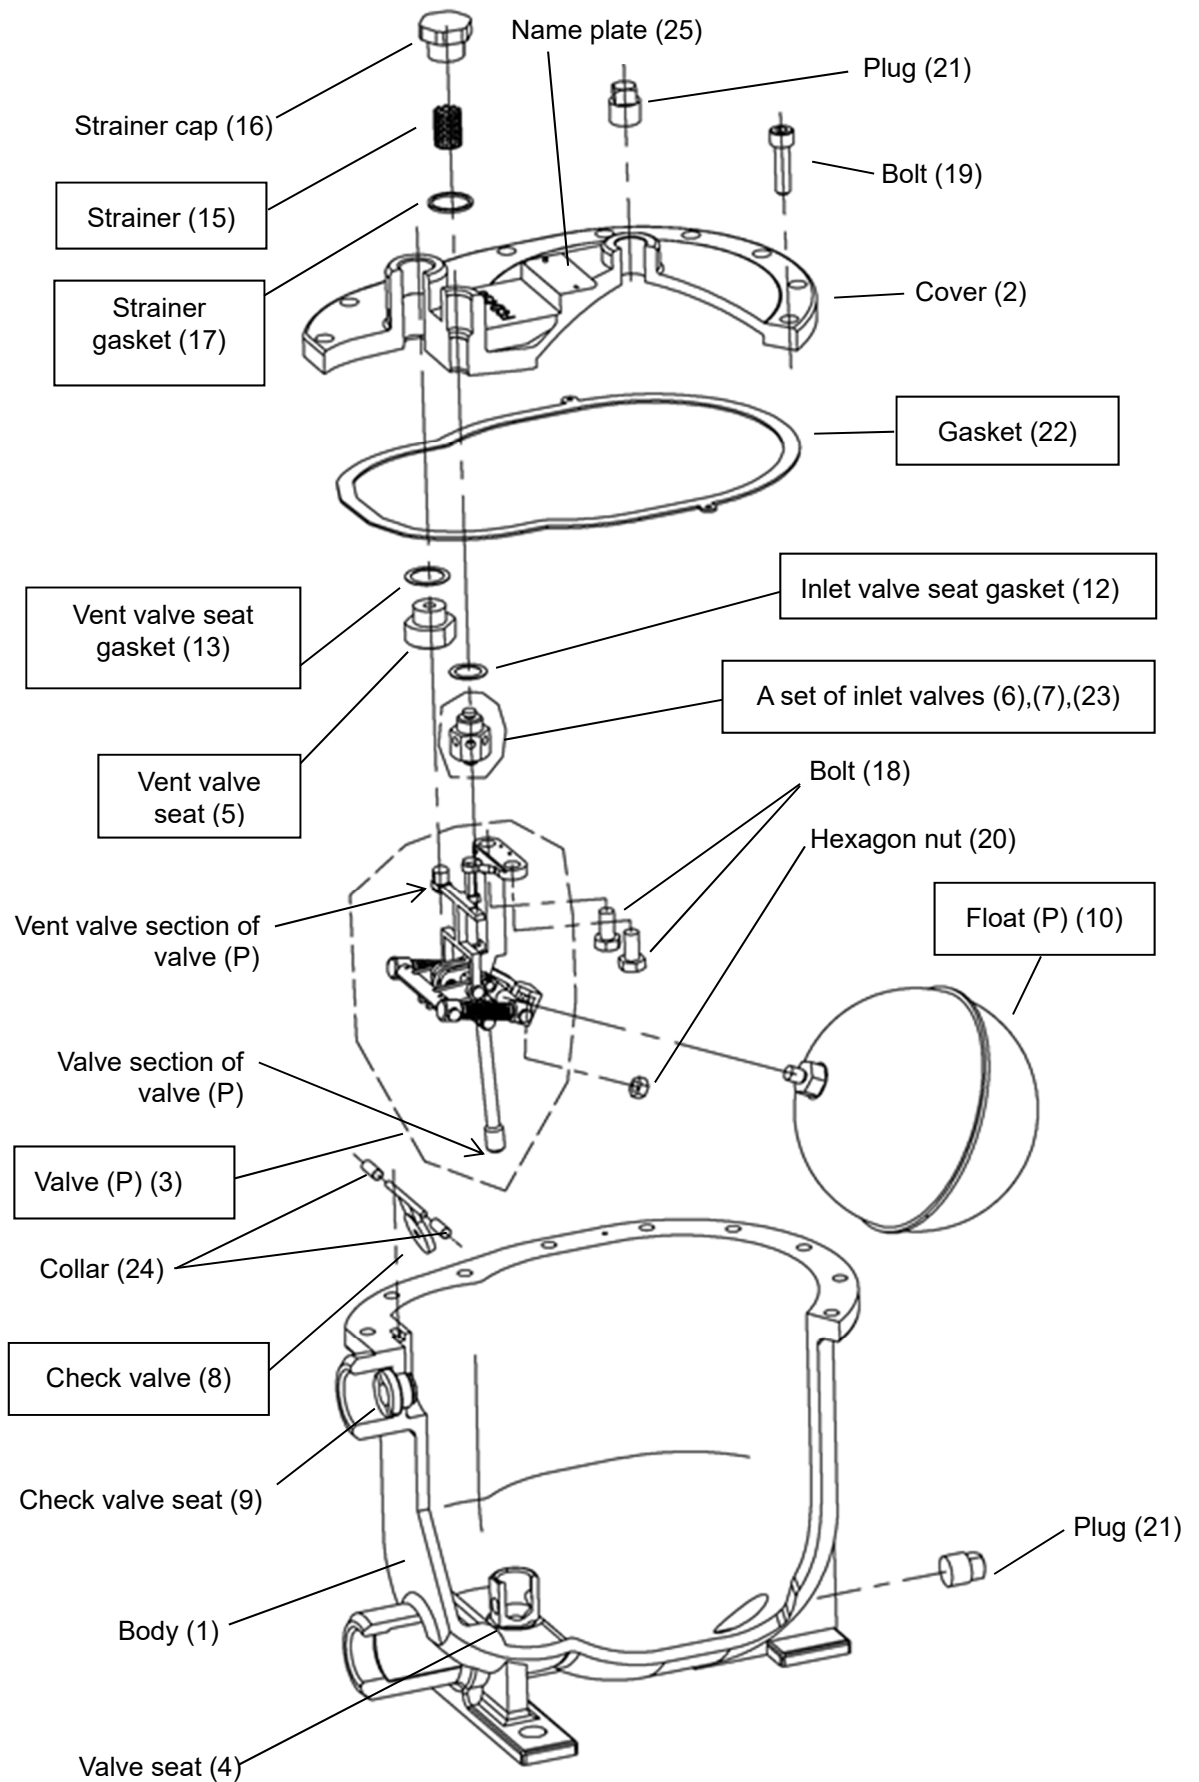

Fig. 10
6.5.2 Disassembly procedure (See Fig. 10.)
6.5.3 Assembly procedure (See Fig. 10.)